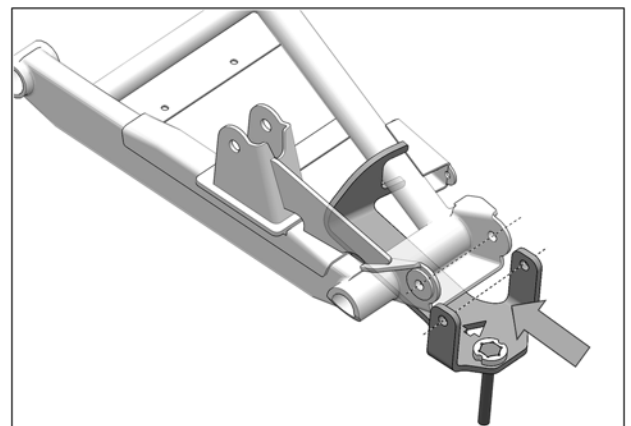

Fig. 9
8. Slide bracket back a little and align bracket holes with holes present in suspension arm. See Fig. 9